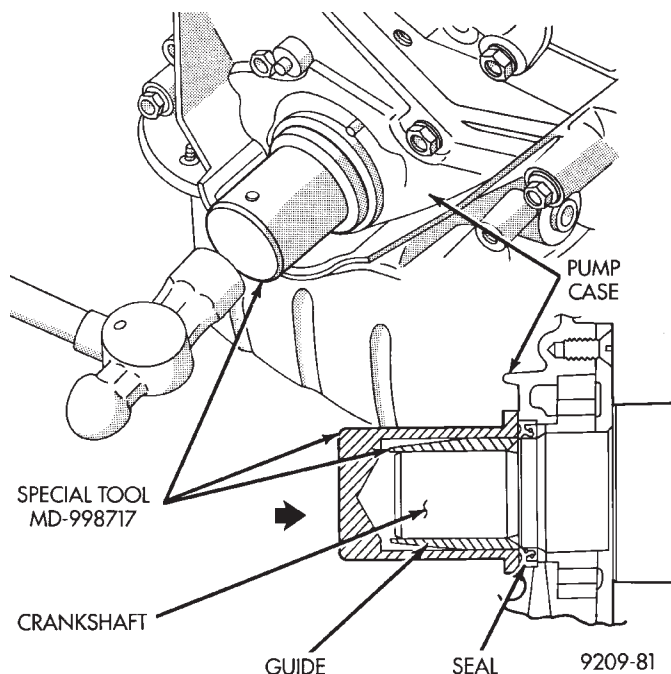

Fig. 65 Front Crankshaft Oil Seal
- (1) Install front crankshaft seal into oil pump housing using Special Tool MD-998717 (Fig. 65).
- (2) Reverse removal procedure for installation.